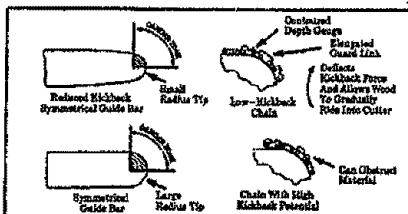

Figure 5
- Reduced-Kickback Guide Bar, designed with a small radius tip which reduces the size of the kickback danger zone on the bar tip. Figure 5. A Reduced-Kickback Guide Bar is one which has been demonstrated to significantly reduce the number and seriousness of kickbacks when tested in accordance with the safety requirements for gasoline powered chain saws as set by the American National Standards Institute, Inc., Standard B175.1 - 1985.
- Low-Kickback Chain, designed with a contoured depth gauge and guard link which deflect kickback force and allow wood to gradually ride into the cutter. Figure 5. Low-Kickback Chain is a chain which has met kickback performance requirements of ANSI B175.1 (Safety Requirements for Gasoline-Powered Chain Saws) when tested on a representative sample of chain saws below 3.8 cubic inch displacement specified in ANSI B175.1.